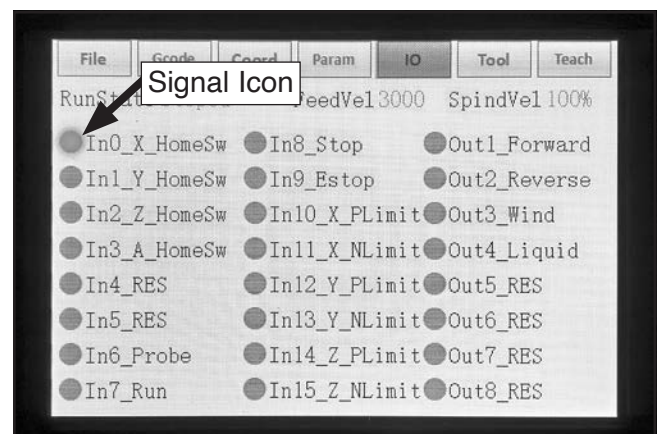

Figure 83. Example of proximity switch signal icon activated.
5. While touching X-axis proximity switch target, verify red signal icon next to "In0_X_HomeSw" changes to green (see **Figure 83**).